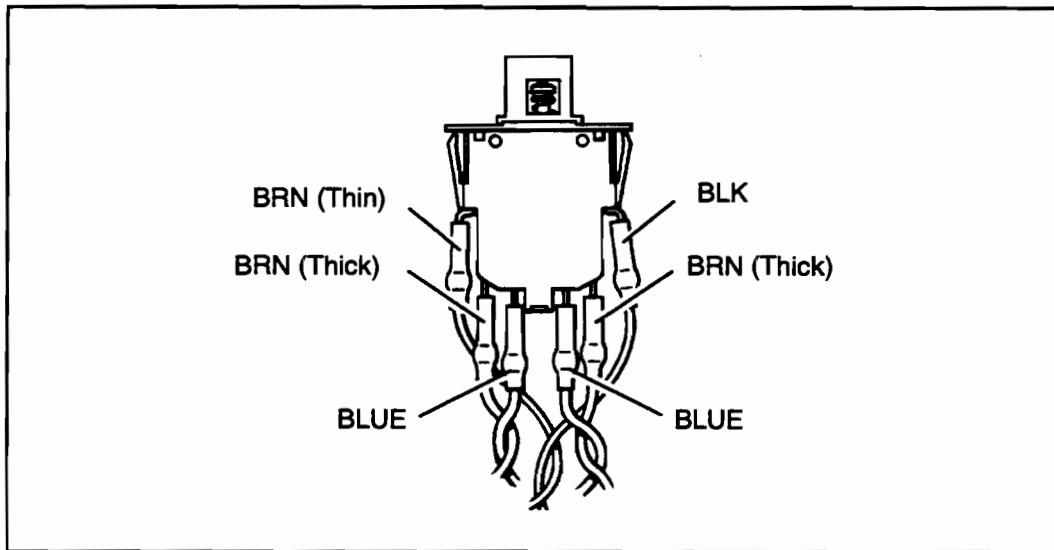

Figure 6-13. Interlock Switch Wiring
6. Slide the interlock switch out from the side of the cover and disconnect the wires. See Figure 6-13.